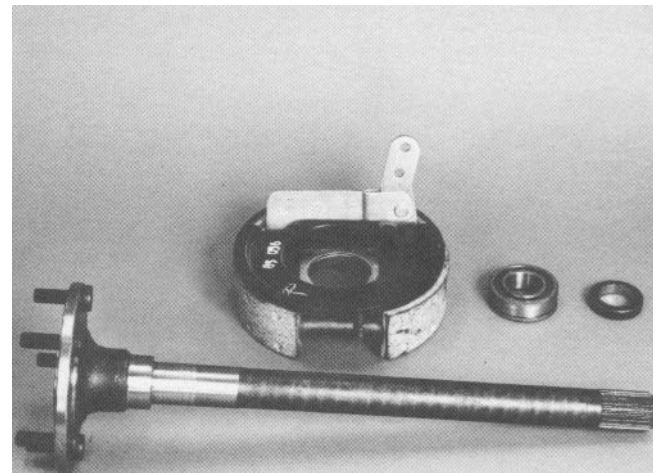

Figure 8
10. Inspect all components for wear and damage (Fig. 8). Replace the hub and shaft if the seal has grooved the surface more than 1/64 inch (0.4 mm).